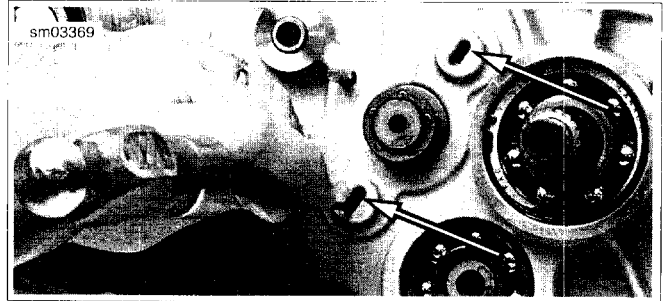

Figure 5-60. Slots For Removing Shifter Fork Shafts
1. See Figure 5-60. Remove shifter fork shafts by inserting a small flat punch in the slots and tapping on the end of each shaft until it falls free.